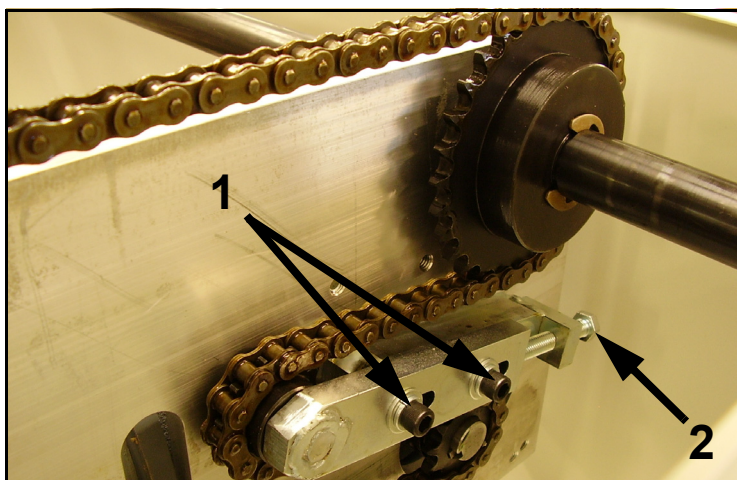

Figure 6-29. Loosen screws to remove chain tension
- 7 Remove tension from the chain by loosening the two socket head cap screws (1 in Figure 6-29) and backing down the single tension bolt (2). Carefully lay the slack chain down to the floor pan of table. Be sure to maintain chain/tooth indexing on the two top sprockets of the drive shafts.
- 11 Install the new gearbox to the table and secure the four bolts. Carefully loop the chain around the drive sprocket (reference Figure 6-29 for correct path). **Do not** adjust the chain tensioner at this time.